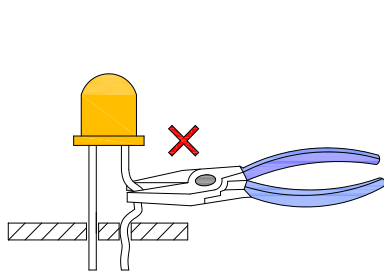

Fig. 7
- 4.4. During lead forming, use tools or jigs to hold the leads securely so that the bending force will not be transmitted to the LED lens and its internal structures. Do not perform lead forming once the component has been mounted onto the PCB. (Fig. 7)